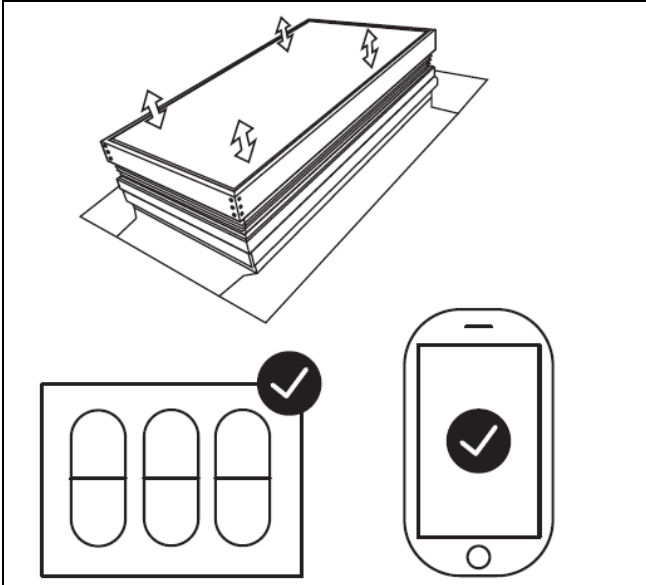

Figure 63
2. Use the pre-associated Awaken remotes to validate skylight functionality. Alternatively download and install the Marvin Home App to test full functionality. See Figure 63.